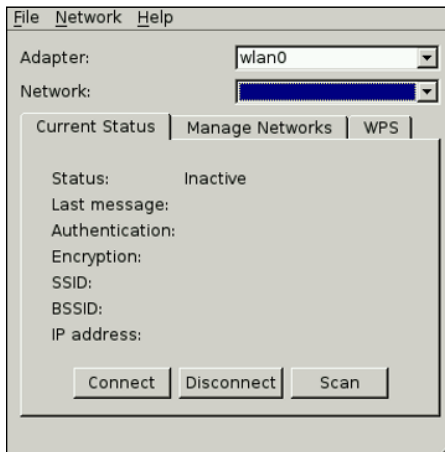

FIGURE 7-28: The Network Config window
3. Assuming that one of the listed APs is your own, double-click its line in the Scan window. The NetworkConfig window opens (see Figure 7-28). If you don't see your AP listed, your Raspberry Pi may be too far away, or there may be some configuration conflict.